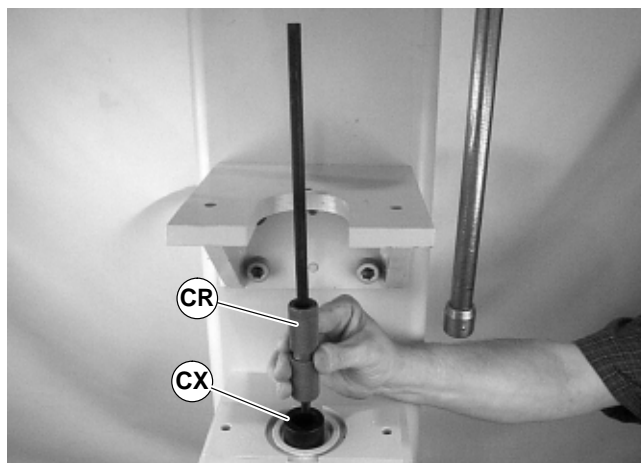

Figure 41
4. Orient bearing anvil/sleeve removal tool (CX of Figure 41), part number 25-09, with cavity facing up and place pulley (CR) onto tool.